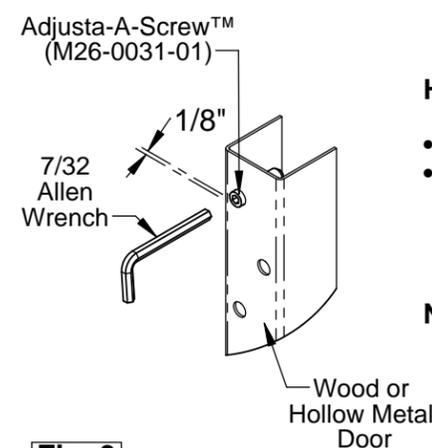

Fig. 3
- Insert Adjusta -A-Screws into every hole. Place a 7/32" Allen wrench in the opening of the Adjusta-A-Screw and turn the Adjusta-A-Screw into the hole while keeping the screw properly aligned as shown (Fig. 3) Drive all the Adjusta-A-Screws in until it is approximately 1/8" from edge of door. (Adjusta-A-Screw will self tap)